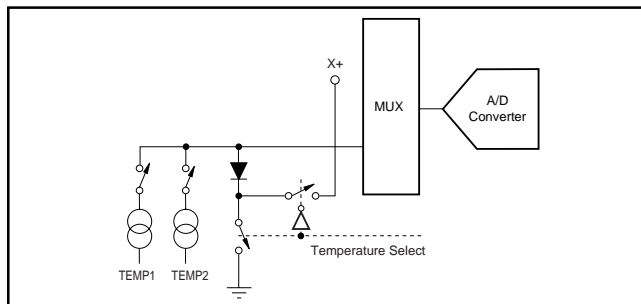
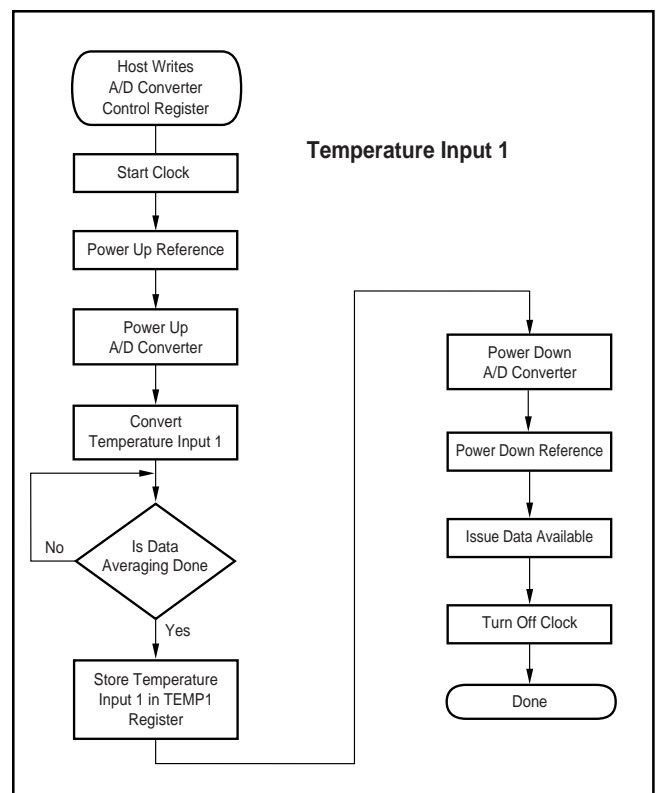

FIGURE 18. Functional Block Diagram of Temperature Measurement Mode.
FIGURE 19. Single Temperature Measurement Mode.
The TSC2000 offers two modes of temperature measurement. The first mode requires calibration at a known temperature, but only requires a single reading to predict the ambient temperature. A diode, as shown in Figure 18, is used during this measurement cycle. This voltage is typically 600mV at +25°C with a 20µA current through it. The absolute value of this diode voltage can vary a few millivolts; the temperature coefficient (TC) of this voltage is very consistent at  $-2.1\text{mV}/^\circ\text{C}$ . During the final test of the end product, the diode voltage would be stored at a known room temperature, in system memory, for calibration purposes by the user. The result is an equivalent temperature measurement resolution of  $0.3^\circ\text{C}/\text{LSB}$ . This measurement of what is referred to as Temperature 1 is illustrated in Figure 19.